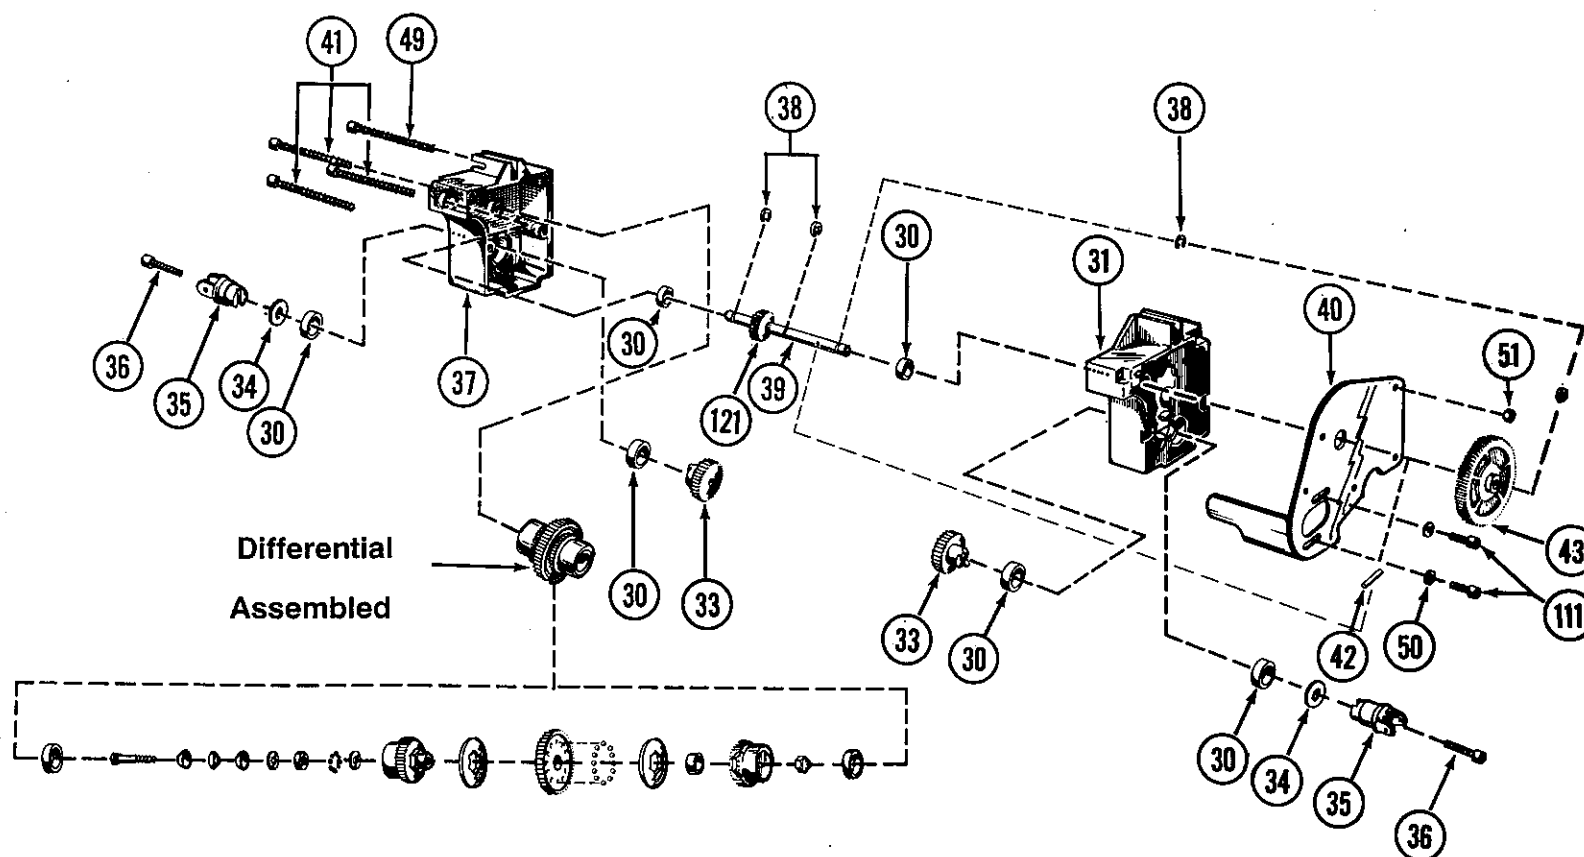

FIG. 17
24. Slide long side of pinion shaft assembly (39) through upper bearing in right half of gearbox (31). Fig. 17.
25. Install differential from step 12 onto middle bearing seat of right half of gearbox (31). Fig. 17.
26. Assemble gearbox halves (31) (37) together. Fig. 17.
27. Secure assembled gearbox to motorplate (40) using three 4-40 x 1 3/8" socket head shoulder screws (41). Fig. 17.
28. Insert 1/16" x 7/16" spirol pin (42) into pinion shaft (39). Press spur gear (43) protruding onto pinion shaft (39) being sure to align groove in gear (43) with pin (42) in shaft (39). Secure gear (43) on shaft (39) with one large 3/16" E-clip (38) snapped into shaft groove (39). Fig. 17.